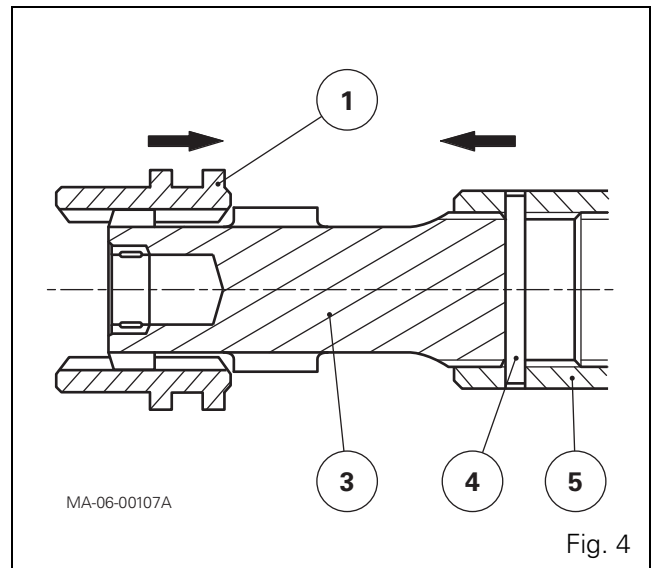

Fig. 4
Tractors with a creeper unit are equipped with the link shaft (3) (Fig. 4).
9. Drive the double pin (4) out from the coupling sleeve (5). Slide the sleeve (5) and coupler (1) towards each other on the shaft (3) that links the drive pinion (26) and the gearbox output shaft. Remove the shaft and sleeve assembly (Fig. 4).
If the double pin is not accessible, slide the rear sleeve of the 4WD shaft forwards (link between shaft and 4WD unit). Turn the wheel shaft so as to position the shaft (3) correctly (Fig. 4).
10. Take off circlip (1) and remove the pinion (2) (if fitted).